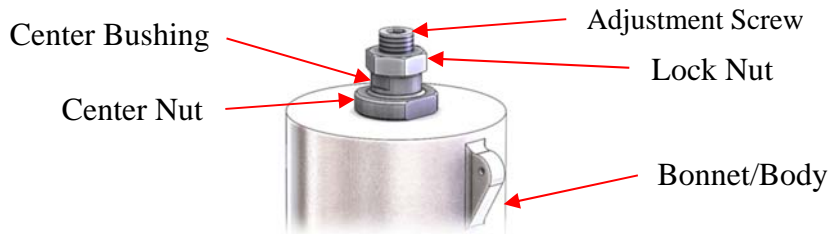

Figure 17: 2" Body Outer Bonnet
2. Loosen the lock nut from the adjustment screw. See Figure 17.